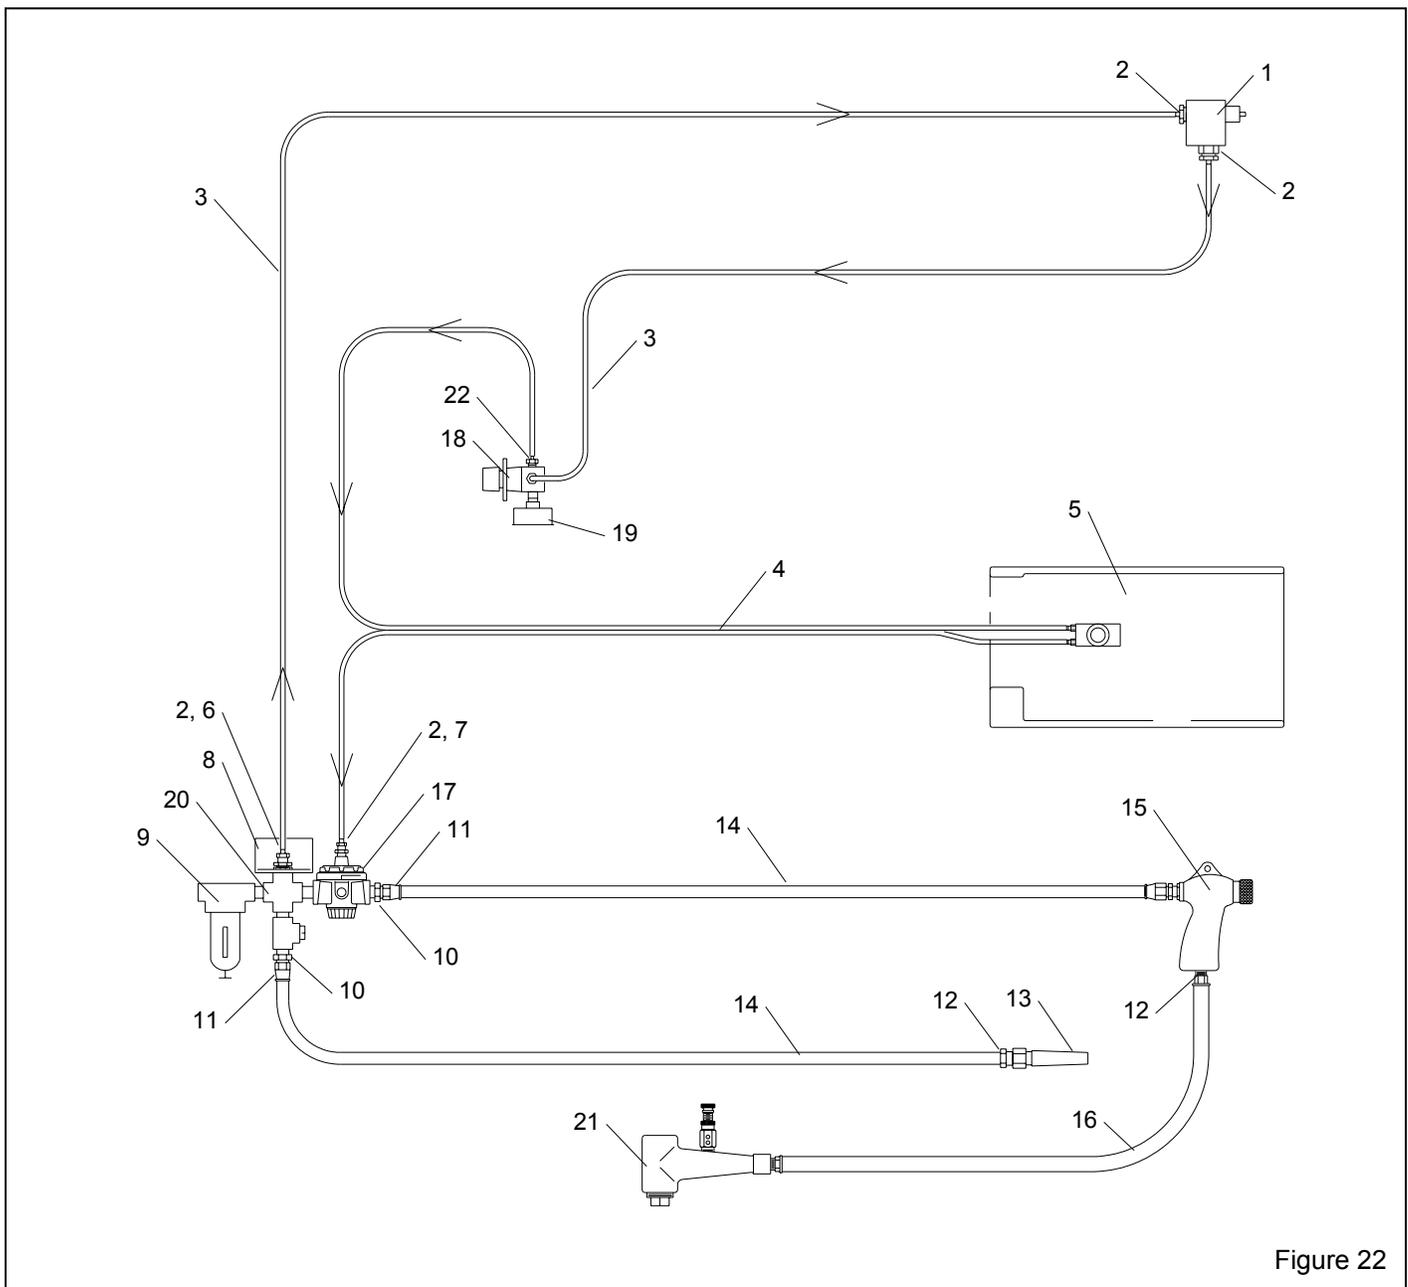

Figure 22
9.3 Cabinet Plumbing assembly, Figure 22